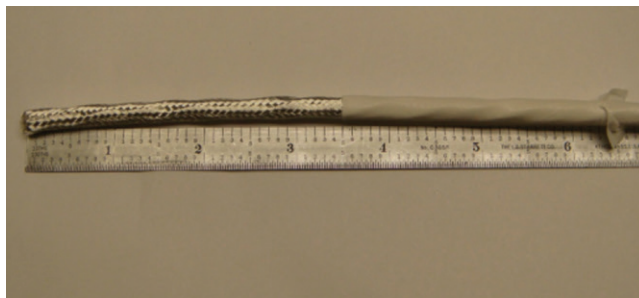

Figure 45: Exposing the braid
5. Using needle-nose pliers, gently pull the outer jacket down the cable until you have exposed approximately 3.5 inches of braid (Figure 45).